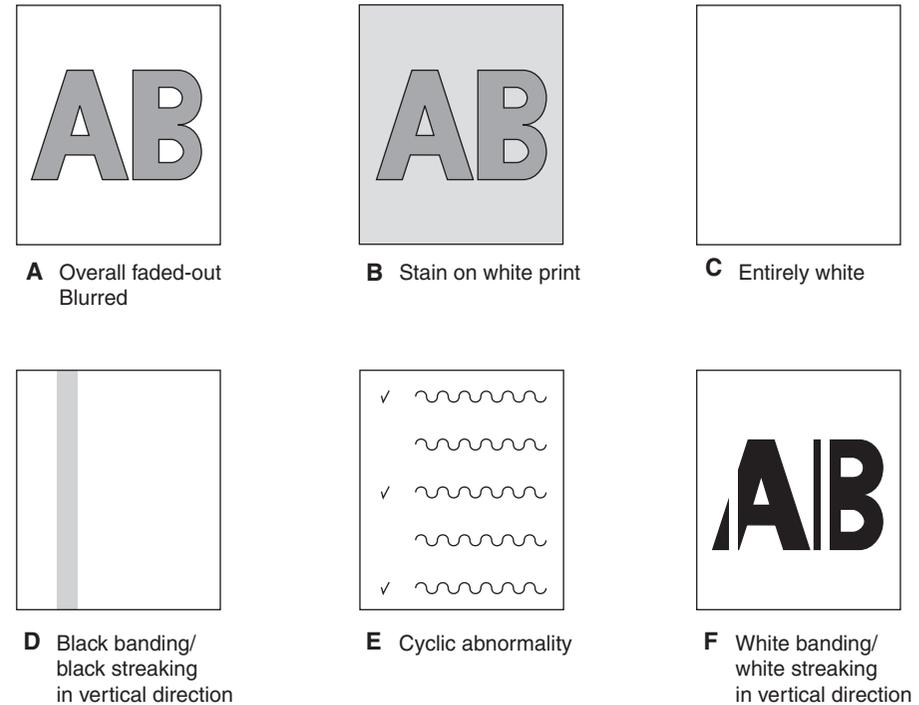

Figure 6-2
- (1) Color has faded-out and blurred entirely. (Refer to Figure 6-2 A.)6-67
- (2) Stain on white print. (Refer to Figure 6-2 B.).....6-68
- (3) White print (Refer to Figure 6-2 C.).....6-69
- (4) Black banding/black streaking in vertical direction.....6-70
- (4-1) Thin vertical line (with color) (Refer to Figure 6-2 D.).....6-70
- (4-2) Thin vertical line (without color) (Refer to Figure 6-2 F.).....6-70
- (5) Periodic abnormalities (Refer to Figure 6-2 E.).....6-70
- (6) Solid black printing.....6-71
6.5.3.(1) Color has faded-out and blurred entirely. (Refer to Figure 6-2 A.)
6.5.3.(2) Stain on white print. (Refer to Figure 6-2 B.)
6.5.3.(3) White print (Refer to Figure 6-2 C.)
(4-1) Thin vertical line (with color) (Refer to Figure 6-2 D.)
(4-2) Thin vertical line (without color) (Refer to Figure 6-2 F.)
6.5.3.(5) Periodic abnormalities (Refer to Figure 6-2 E.)